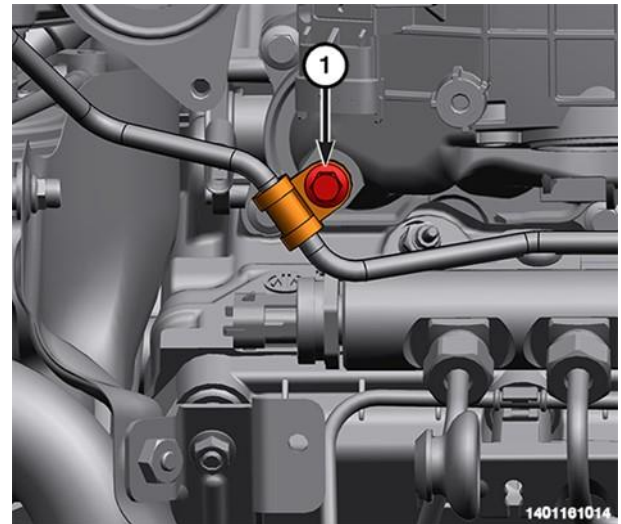

Figure 120 – Crossover Tube Bolt
- 52. Remove the fuel crossover tube bolt (1) (Figure 120).